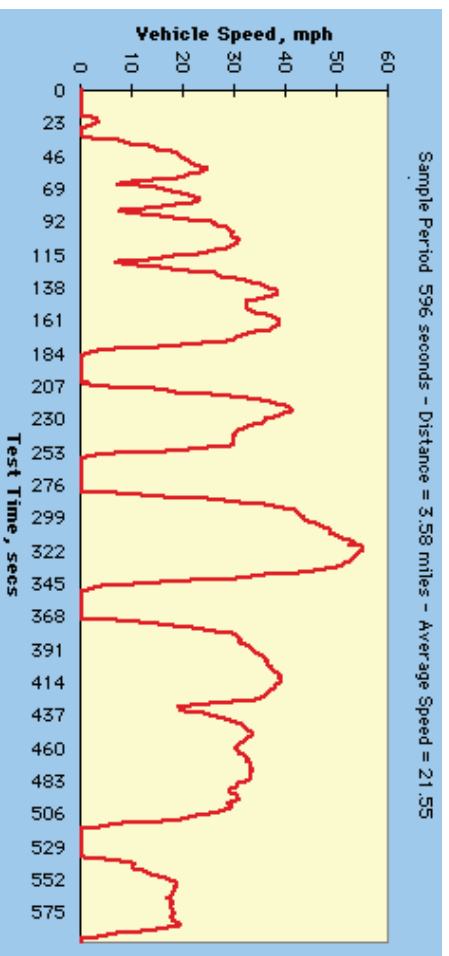

Figure 5. SC03 Test Cycle Speed Trace
- **SC03**: The SC03 is another variation of the SFTP but requires the use of the air conditioning (A/C) system during the test and at a lab temperature of 95°F (35°C). For this testing, EPA was unable to incorporate the lab temperature of 95°F. Figure 5 shows the speed trace of a single SC03 test cycle which is available in 40 CFR Part 86 Appendix I (h).